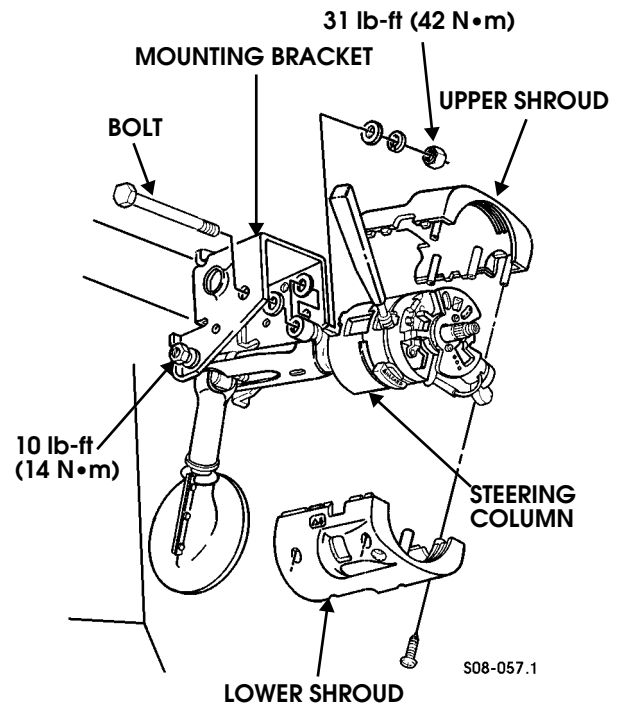

Figure 8-15: Steering Column Shrouds
1. Remove five screws and lower shroud from steering column (Figure 8-15).
8. Position upper steering column shroud on steering column (Figure 8-15).